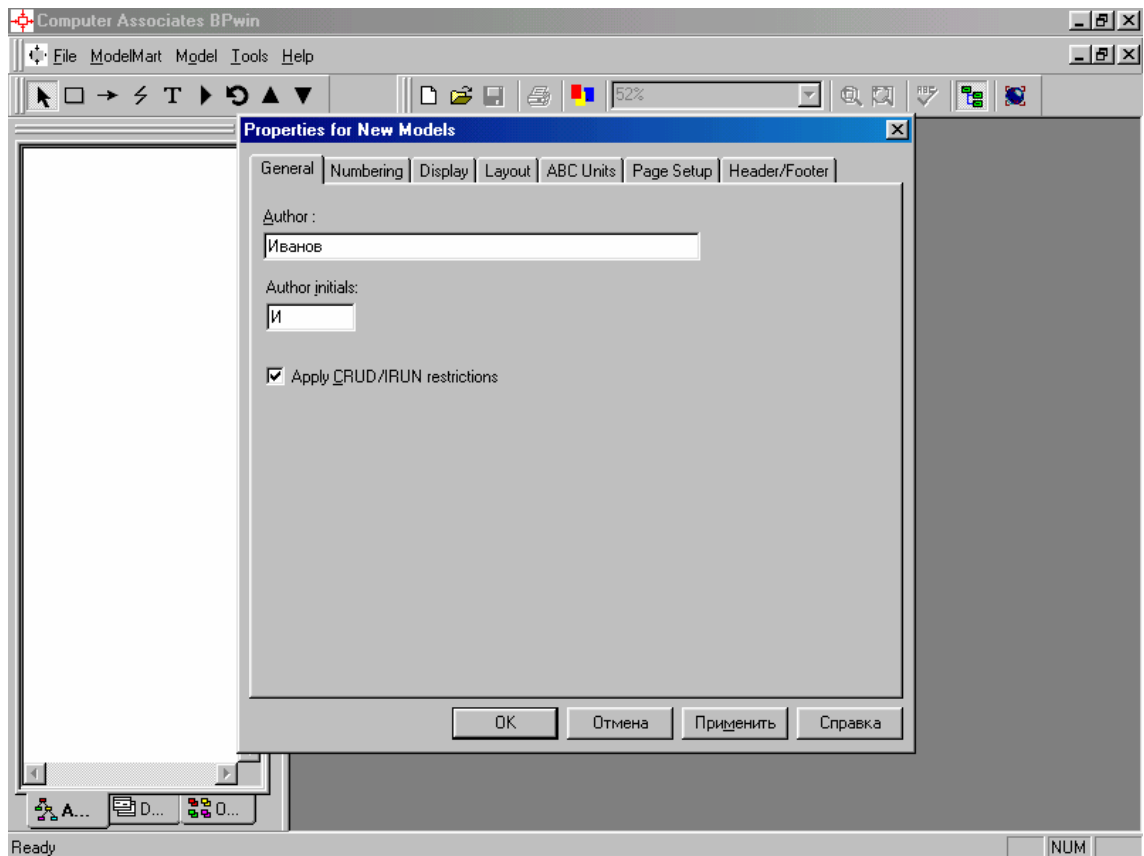

Figure 1.2
3. In the "Properties for New Models" window, enter (if necessary) information about the author (Figure 1.2) and click "OK".